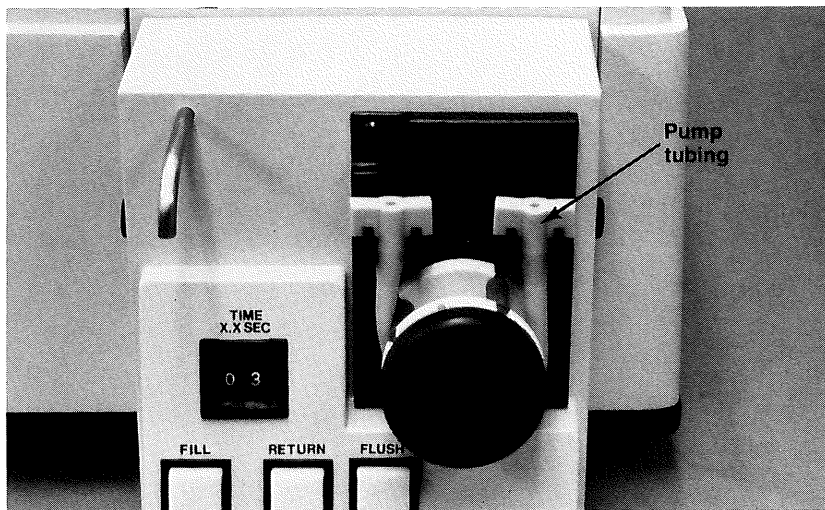

Figure 6.
6. Install the pump tubing on the peristaltic pump. See Figure 6.